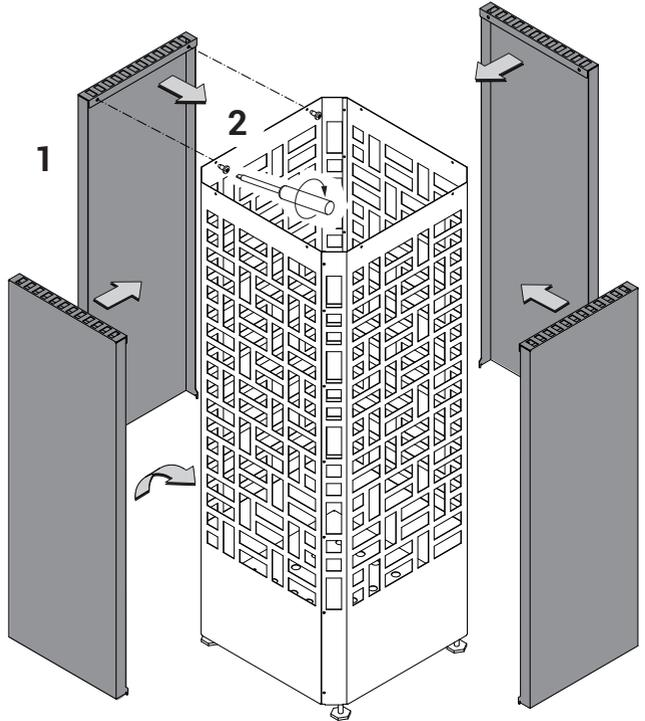

Fig. 7
- First insert the bottom end tongues of the panel into the openings in the heater shell, then put the upper part over the top edge of the outer shell (Fig. 7).
- Secure each side panel with 2 supplied screws (Fig. 7).